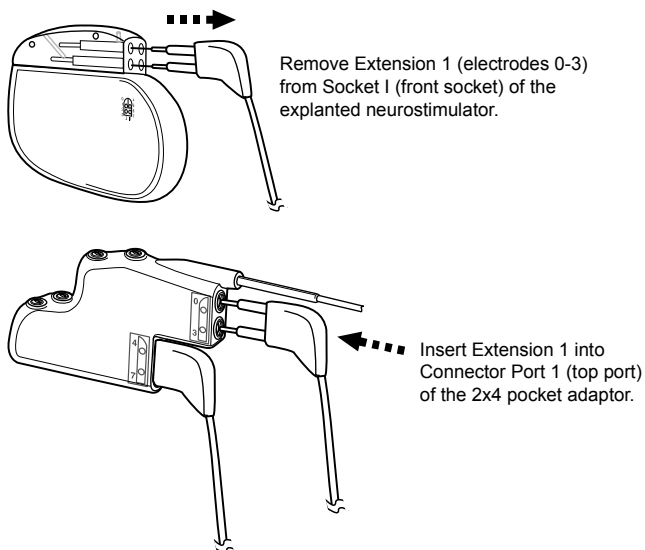

Figure 5. Remove Extension 1 from Socket I of the explanted neurostimulator and insert into Connector Port 1 of the 2x4 pocket adaptor.
5. Remove Extension 1 from Socket I (front socket) of the explanted neurostimulator (Figure 5).
8. Insert the connector pins of Extension 1 into Connector Port 1 (top port) of the 2x4 pocket adaptor until fully seated (Figure 5).